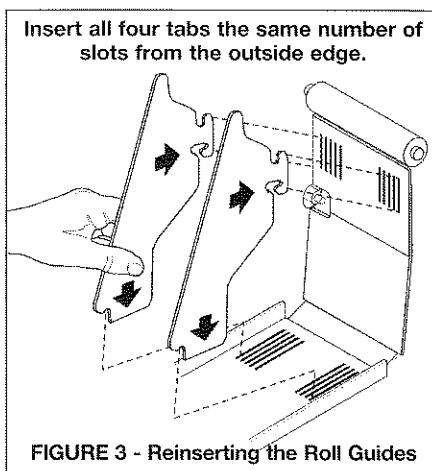

FIGURE 3 - Reinserting the Roll Guides
2. Reinsert each guide pressing it first into the bottom slot and then rotating it into the front slot. *See Figure 3.*